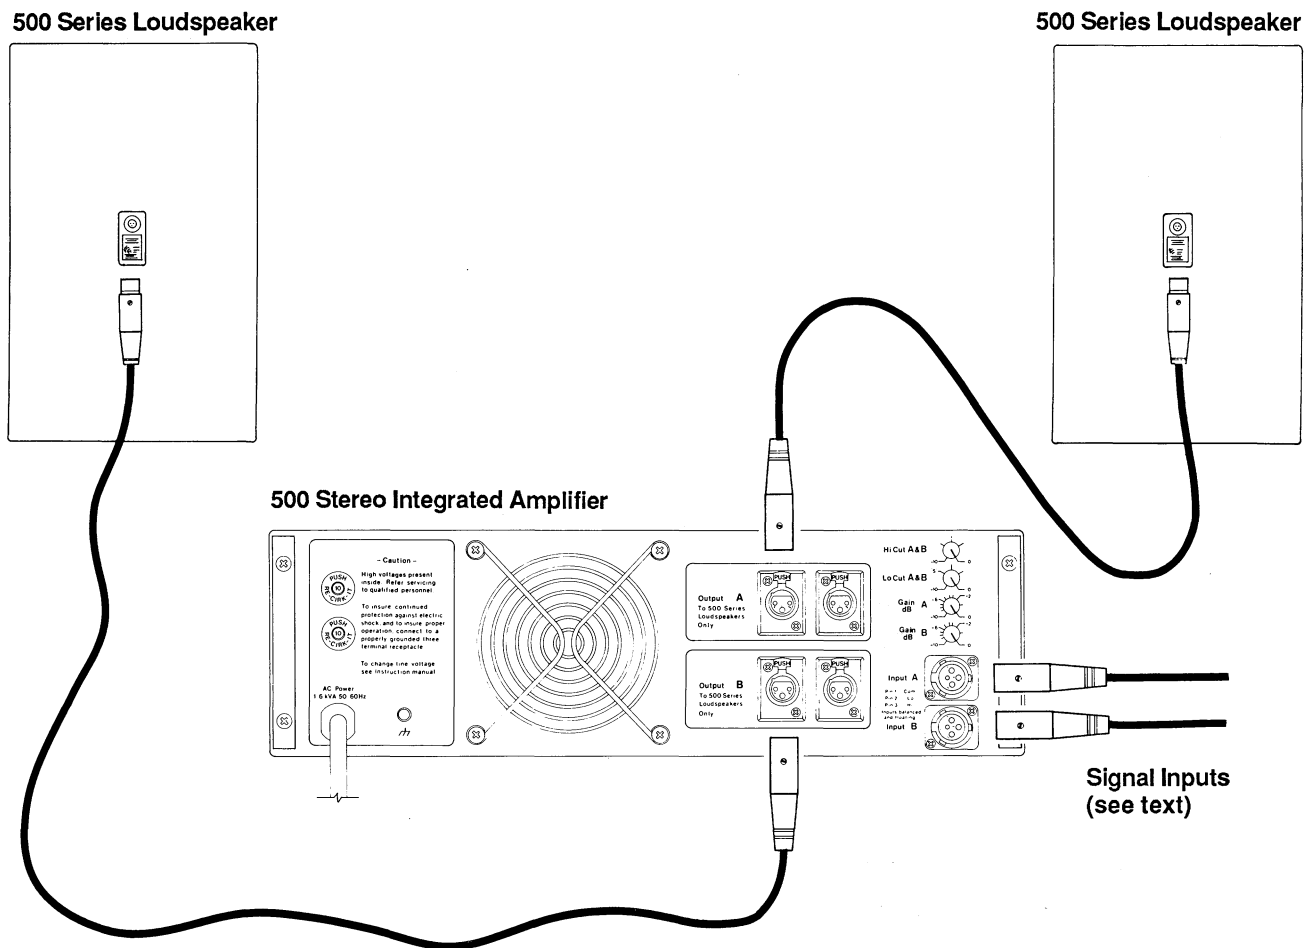

Figure 2-1 Connecting 500 Series Systems
The specific information necessary to perform these steps is given below. Refer to Figure 2-1 when making connections to your 500 System. Be sure to observe Left (A) and Right (B) channel assignments.